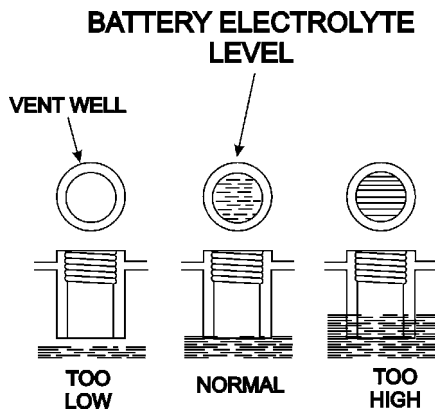

Figure 35. Battery Electrolyte Levels
- Check the battery regularly and make sure that each electrolyte level is to the bottom of the vent well (Figure 35). If necessary add only distilled water in a well-ventilated area.